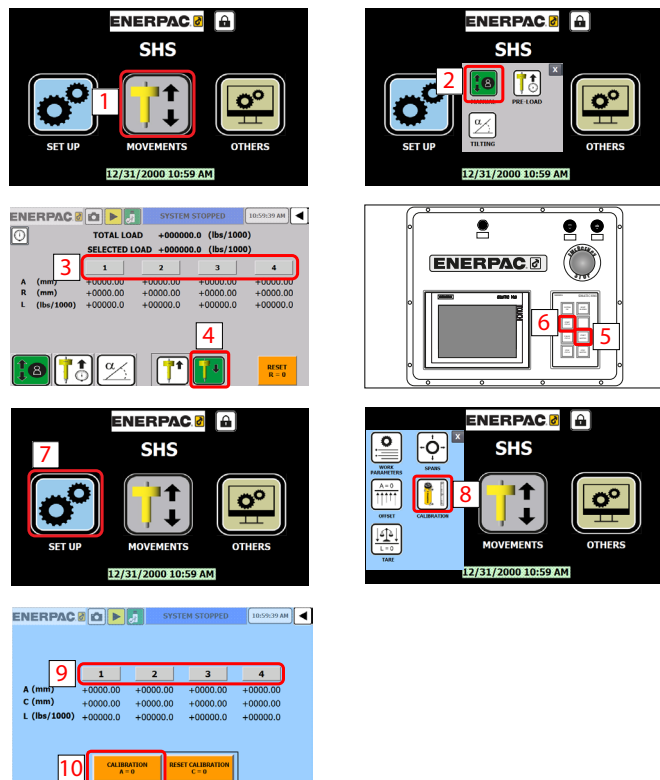

Figure 26: Calibration Procedure
- Recording mode: Select the recording mode (manual or automatic), for recording movement data purpose. When the manual option is selected, the system only records the record button is pressed (Figure 26, Item 2). When automatic mode is selected, the system automatically records the data when the system is moving.